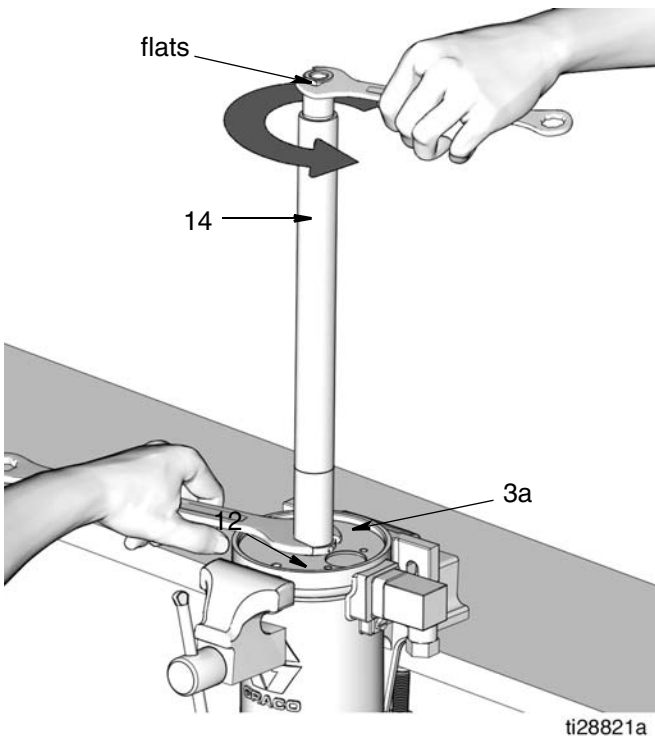

FIG. 15
12. Outlet Tube O-Ring (13) and Pump Cylinder O-Ring (9)
Securely hold nut (3a) [located on the bottom of the pump cylinder (12)] in place with a wrench. Secure a second wrench on the flats of the outlet tube (14). Turn outlet tube counter-clockwise to loosen and remove it from the pump cylinder (12) (FIG. 15).